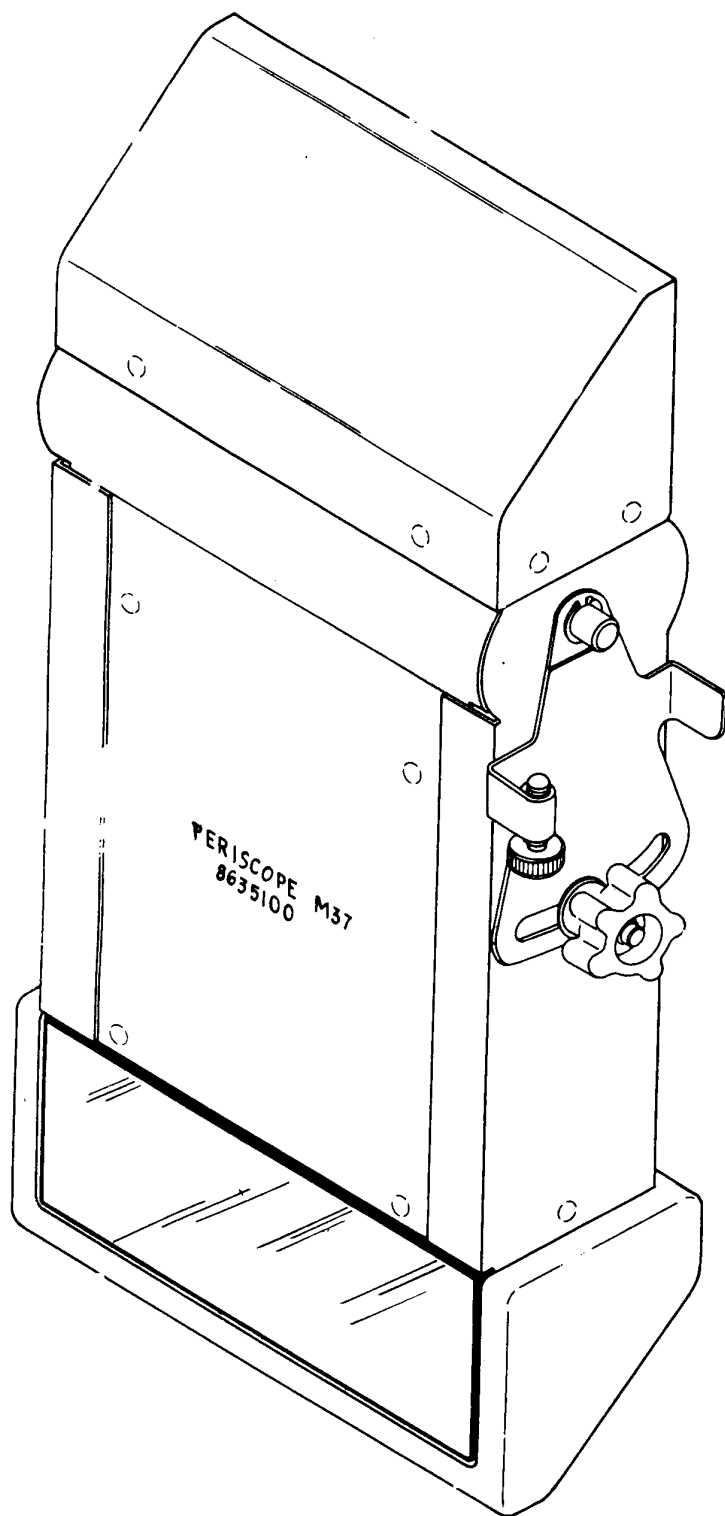

Figure 1. Periscope M37.
a. Periscope M37 (fig. 1) is used as a vision device in 105-mm gun full tracked combat tank M60A1. The pins, on either side of the housing near the cover, act as trunnions for mounting it in the vehicle.